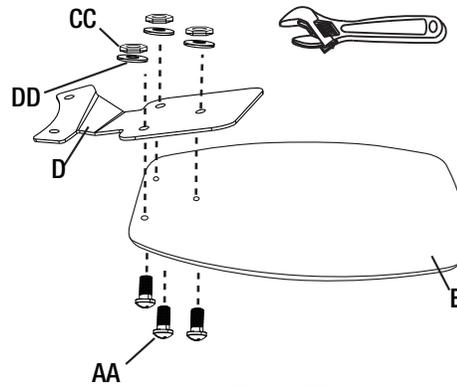

Figure 12
- Mount the blade holders (D) to the fan blades (E) using the blade screws (AA), hex nuts (CC) and flat washers (DD) provided - 3 each per blade (Figure 12).